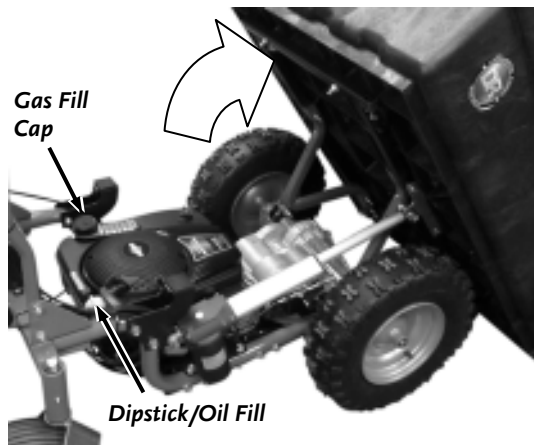

Figure 25
1. Place the machine on a level surface and lift the Bed to the fully up position (**Figure 25**).
1. Check the oil level every time you use the machine (**Figure 25** on page 14).
2. Check the gas level (**Figure 25** on page 14).